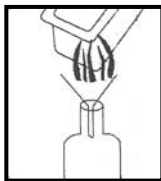

Fig. 7
- To filter the oil first make sure the oil has cooled and then empty the oil from the oil container into another container or bottle. Fig. 7